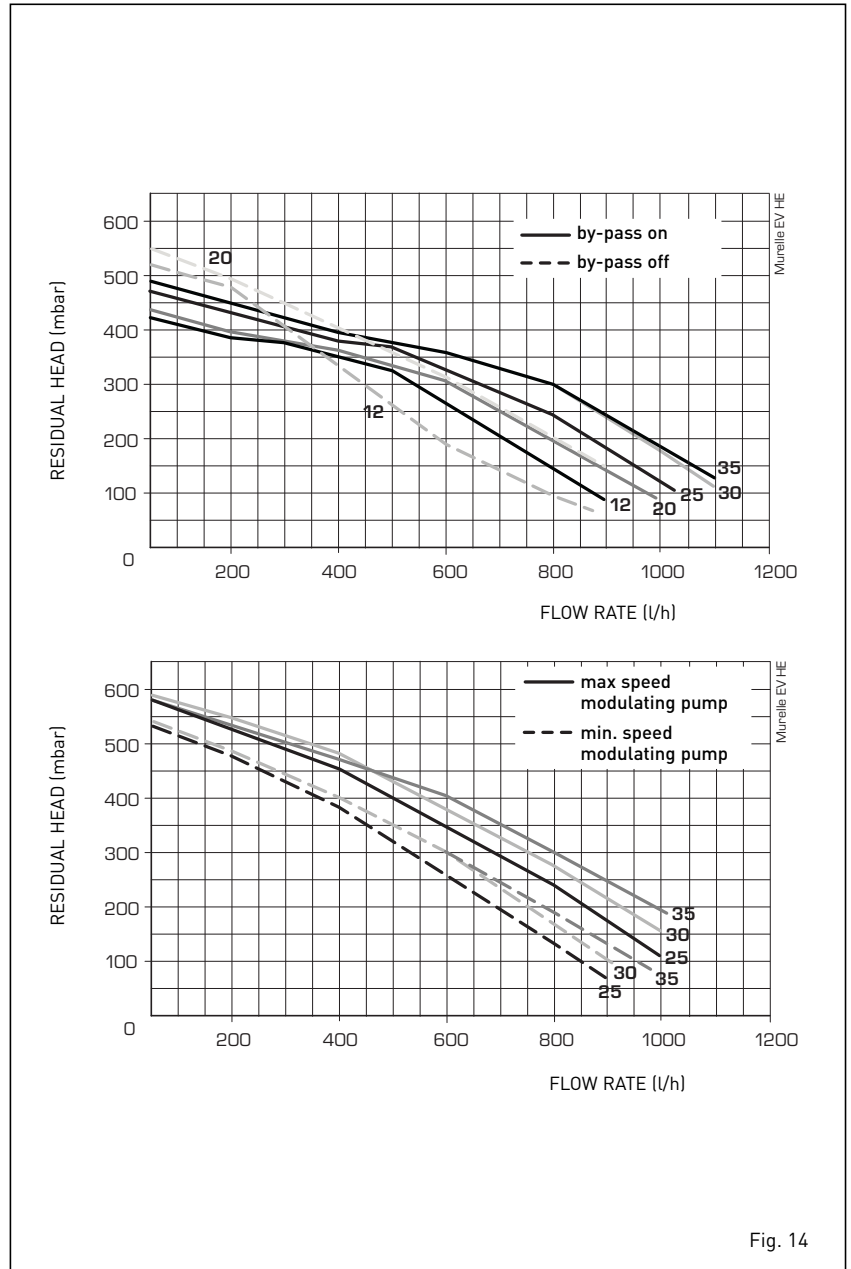

Fig. 14
3.8 HEAD AVAILABLE TO SYSTEM (fig. 14 - fig. 15)
Residual head for the heating system is shown as a function of rate of flow in the graph in fig. 14.